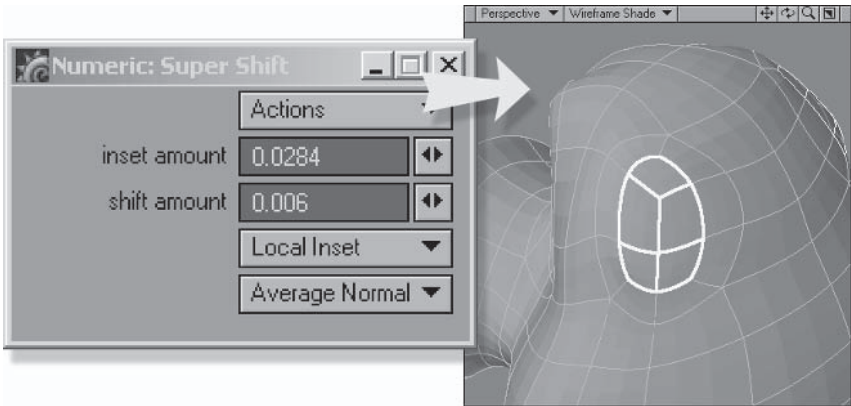

Figure 5.3-40. Shift the polygons, then tweak.
4. With the polygons still selected, **Super Shift** using the settings shown in Figure 5.3-40. Adjust the points of the selected polygons from the Perspective view, making sure they're even and make a nice oval.